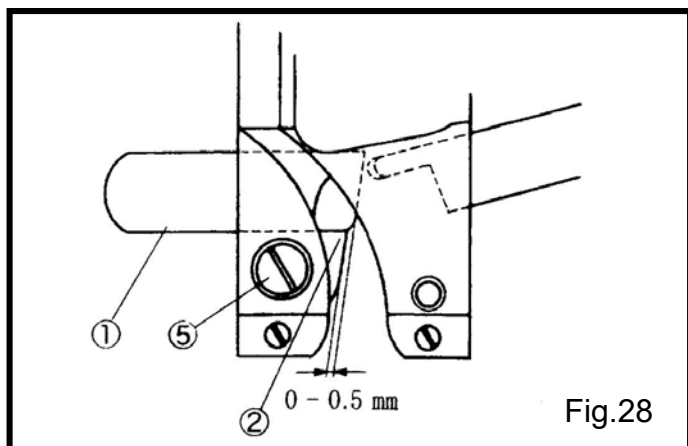

Fig.28
- (1) 底刀①的標準位置要留距離在底刀①尖端和鎖底刀座②之間 0-0.5mm。(Fig.28)
- (3) 放鬆螺絲④和⑤去調整上刀和底刀。(Fig.28, 30)
- (1) For the standard position of the lower knife①, make the distance between the lower knife① tip and the lower knife clamp② to 0-0.5 mm. (Fig. 28)
- (3) Loosen the screws④ and⑤ to adjust the lower and upper knives respectively.( Fig.28 , 30)